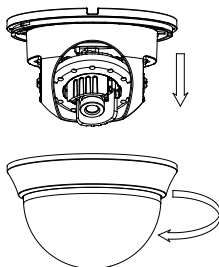

Figure 1-5 Disassembling the Camera
1. Hold the mounting base, and rotate the lower dome counterclockwise to disassemble the lower dome and the black liner (see Figure 1-5).